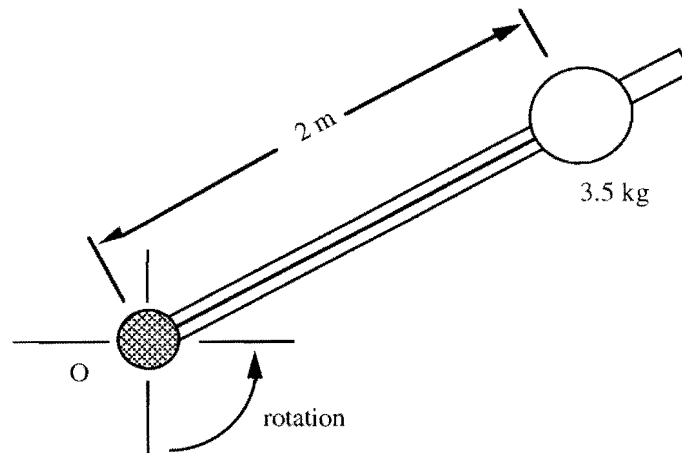

Figure 5
7.† A smooth rod is rotating in a horizontal plane about  $O$ . A mass of  $3.5$  kg, which is free to slide along the rod, is attached to a thin wire whose other end is connected to a small winch at  $O$ . At the particular instant shown in Fig. 5 the mass is a distance  $2$  m from  $O$ ; the magnitudes of the angular velocity and angular acceleration of the rod are  $1 \text{ rads}^{-1}$  and  $3 \text{ rads}^{-2}$  respectively and the winch is pulling the mass along the rod so that the magnitudes of its radial velocity and acceleration relative to the rod are  $5 \text{ ms}^{-1}$  and  $4 \text{ m s}^{-2}$  towards  $O$  respectively. Calculate the tension in the wire and the magnitude and direction of the force exerted by the rod on the mass.